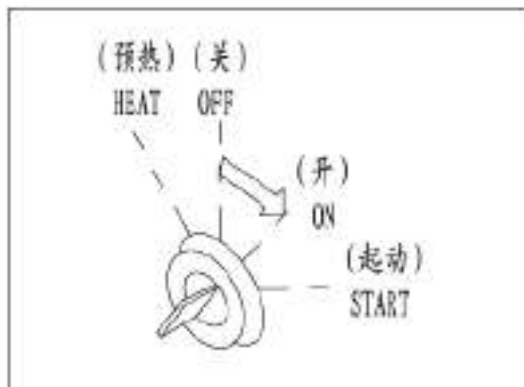

Figure 4-16 Starter key switches
b) Insert the key into the starter switch as shown in Figure 4-16, turn the key to the ON position and then perform the following checks.